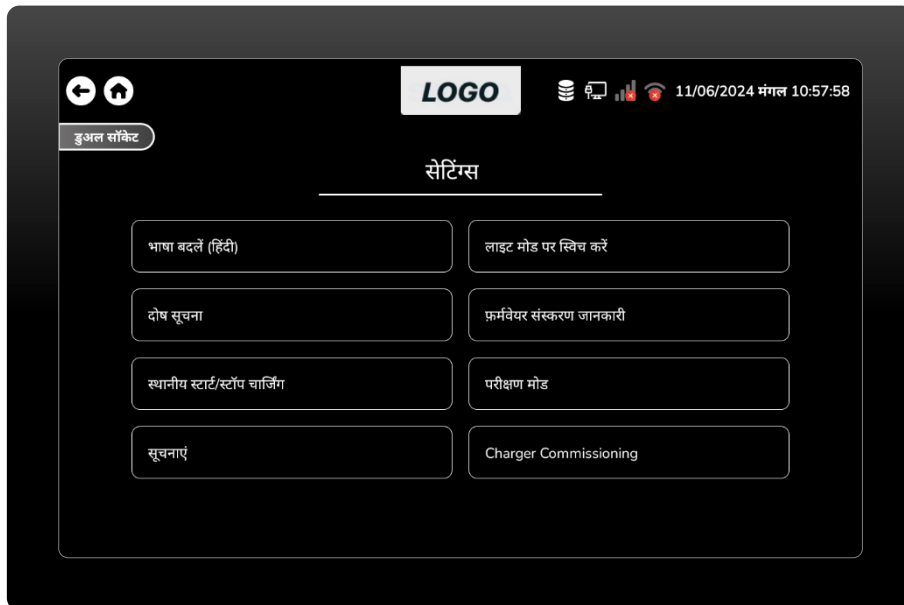

Figure 9 Language Change in Hindi.
- For example, the user selected Hindi from the language selection screen. (Figure 9)